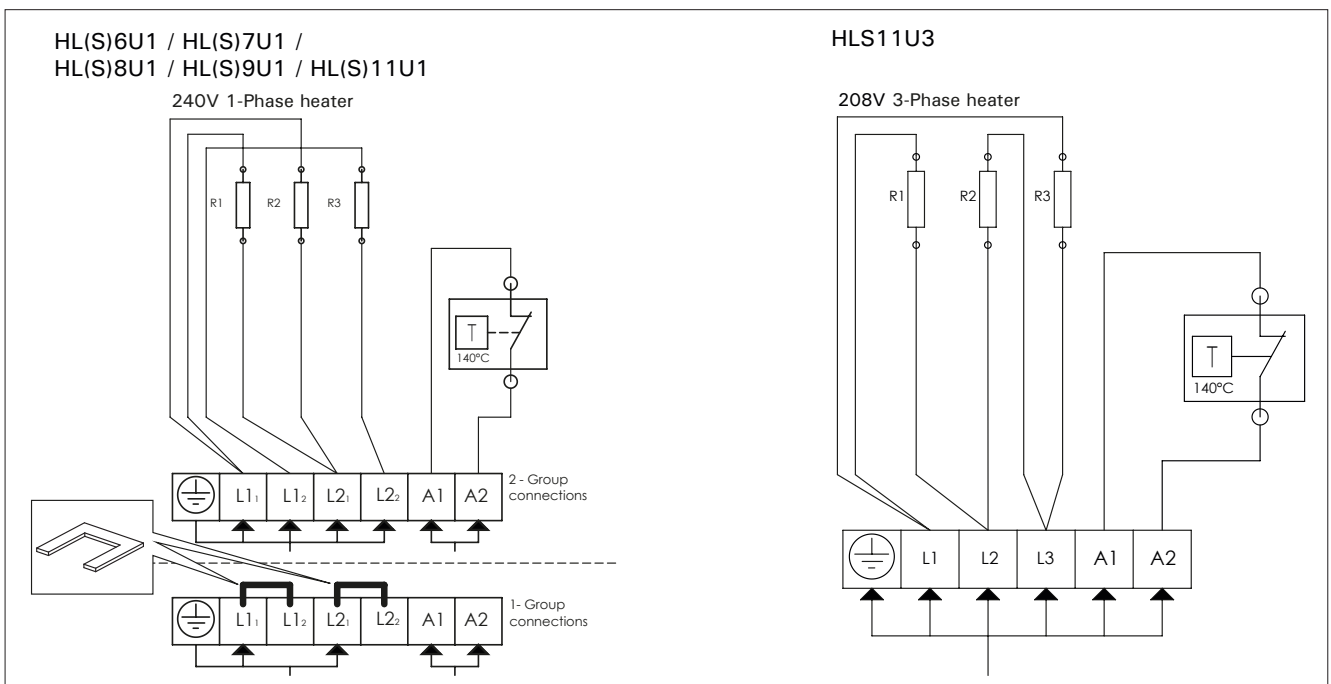

Figure 6. Electrical connections of heater
2. See applicable wiring diagram for heater model (figure 6, see control unit manual for detailed instructions how to connect the heater and the control unit). Heater must be permanently installed by using seal tight conduit between the heater and the wall of the sauna room (pigtailes or plugs are not allowed in the sauna room). Wiring must be done by a licensed electrician, who must follow wiring diagram provided and adhere to local codes. Use proper AWG rated wire size and use copper wire suitable for 194 °F (90 °C) within sauna walls. Use grounding terminals provided in sauna heater and control unit to properly ground the equipment as per NEC and local codes.